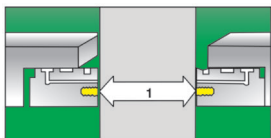

Figure 1
1. When the valve internal pressure is even, the wedge will be in the closed position. The PTFE sealing o-ring on the seat surface acts as the primary sealing. It enables the seat ring to clean both sides of the wedge every time the valve opens or closes (Figure 1).